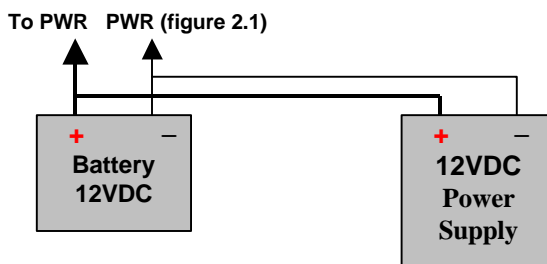

Figure 2.3 DC Power and Battery Back-up
You may use **12VDC 40VA** power supply to power the AeGIS 9000 Series, not supplied by Pach and Company (see figure 2.3).
- Connect the 12 VDC rechargeable battery parallel with the DC power supply as shown in figure 2.3 (polarity is important).
Optional emergency battery can be installed on AeGIS 9000 if DC power supply is used. See the wiring diagram on figure 2.3.